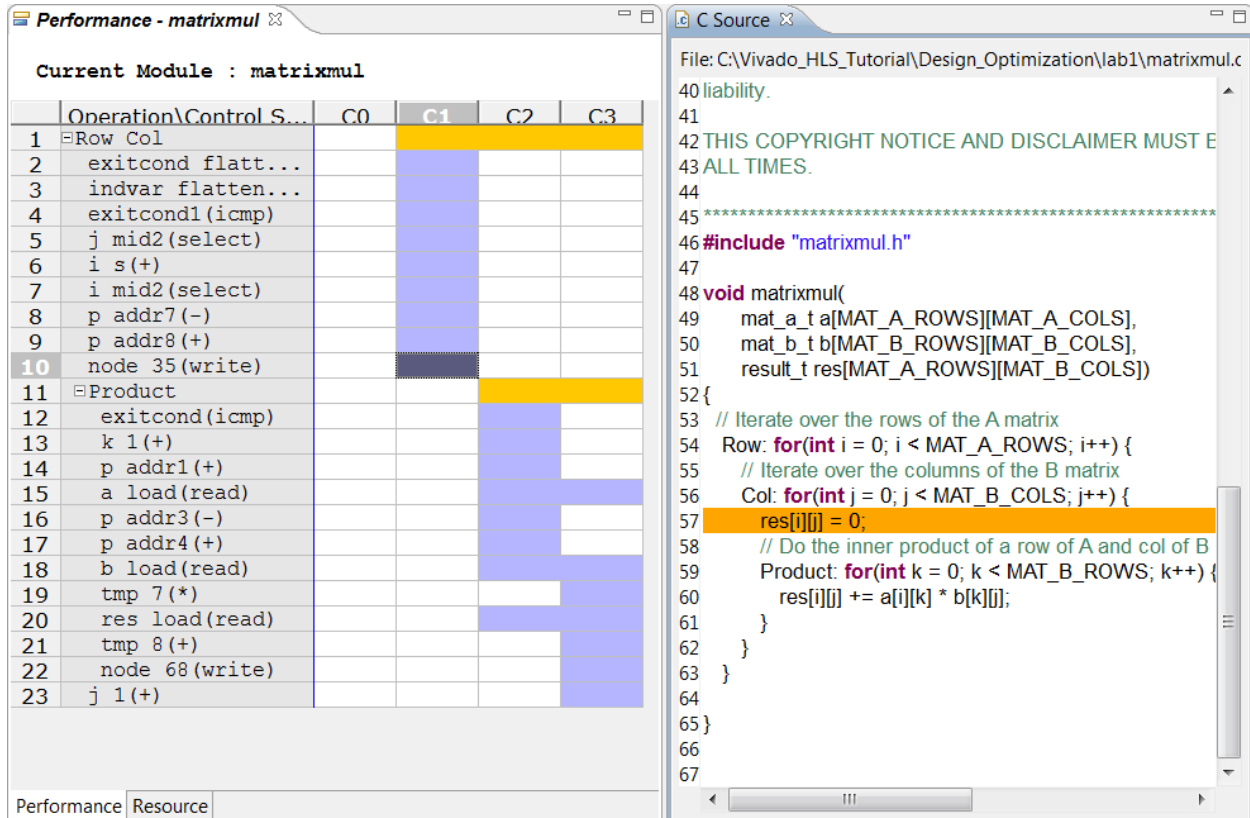

Figure 148: Matrixmul Initial Performance View
9. Right-click and select **Goto Source** to see the view in **Figure 148**.
From **Figure 148** you can see line 60 is a read from array `res` (due to the `+=` operator) and a write to array `res`. An array is mapped into a block RAM by default and the details in the Performance View can show why this conflict occurred.